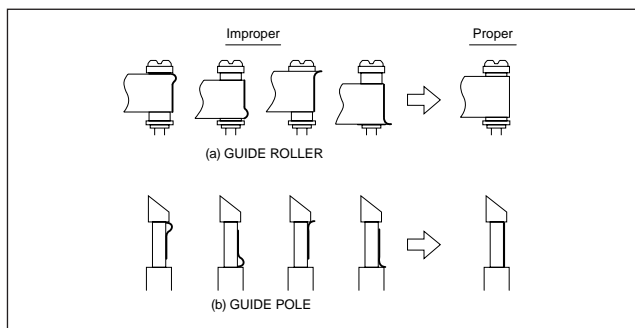

Fig. 3-2-2a
- *To prevent damaging the alignment tape in the compatibility adjustment, prepare a cassette tape (for self-recording/play-back), perform a test on it by transporting it and making sure that the tape is not bent by the tape transport mechanisms such as in the guide rollers.(See Fig.3-2-2a.)*
- After adjustment, confirm that the tape wrinkling does not occur at the roller upper or lower limits. (See Fig. 3-2-2a.)